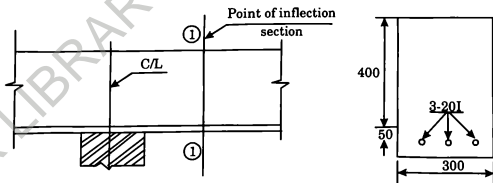

Figure 3
14. Check the bond requirement of the continuous beam of Figure 3. if the factored shear force is 200 kN at the point of inflection. Assume M 20 and Fe 415.